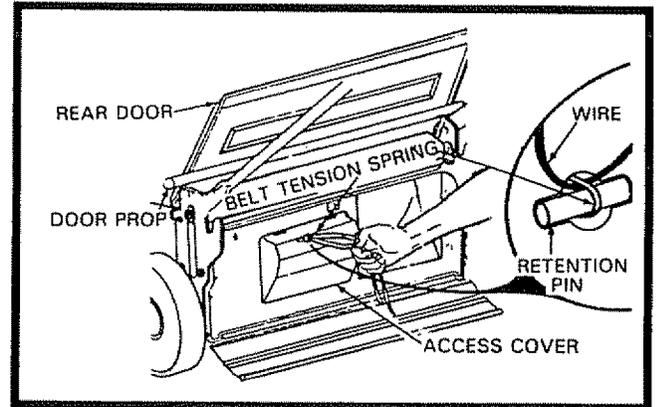

FIG. 18
- Locate Belt Tension Spring and Retention Pin which is located on back side of lawn mower (See Fig. 18).
- Using a piece of wire, pull Spring through hole and remove Retention Pin. Allow Spring to slide into the Plastic Access Cover (See Fig. 18).